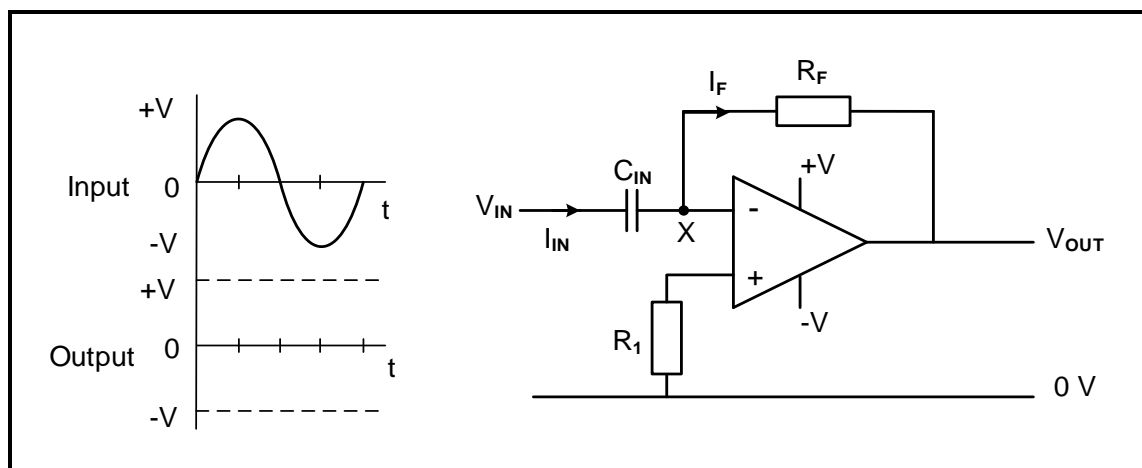

FIGURE 3.6: OP-AMP DIFFERENTIATOR
3.6 Refer to FIGURE 3.6 below and answer the questions that follow.